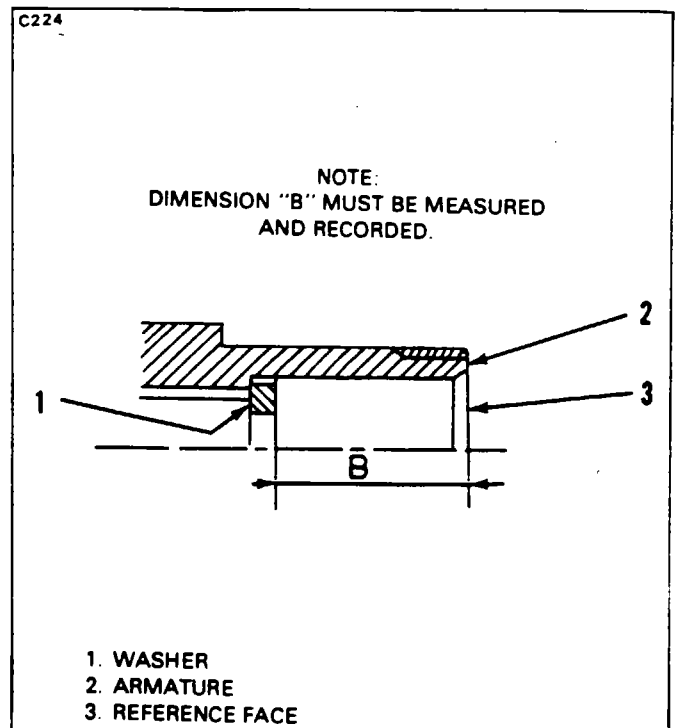

Figure 24-7. Locating Washer
31. Fit the washer and check the dimension B as indicated on Figure 24-7.
(REFER TO FIGURE 24-7 FOR DIMENSION "B")